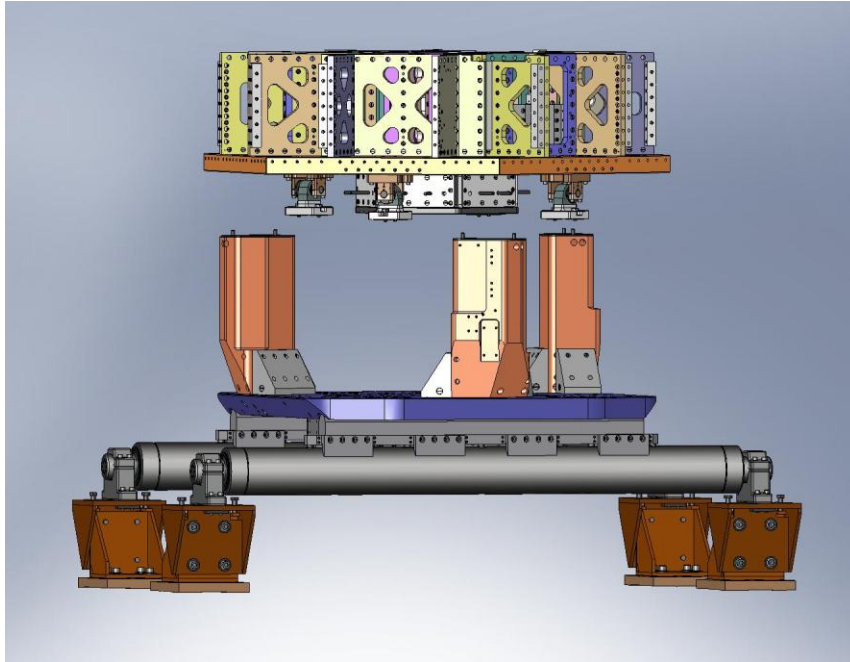

Figure 3.70. Stage 1 positioned over Stage 0 (lifting straps and crane not shown).
- Use overhead crane to lift **Stage 1** (D071420) off the **Assembly Stand**. Move **Stage 1** over **Stage 0** (D071410), as shown in Figure 3.70.